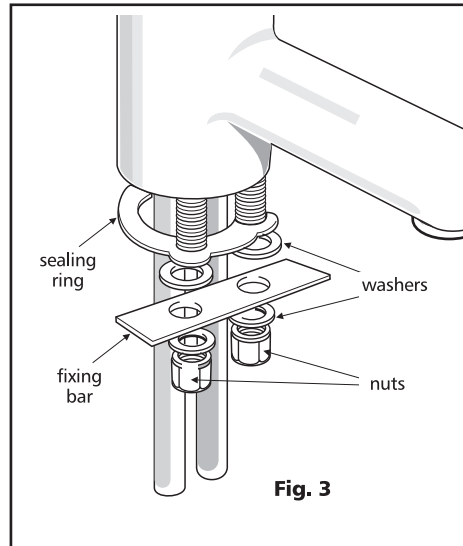

Fig. 3
4. Insert the fitting into the holes and connect as in Fig. 3.